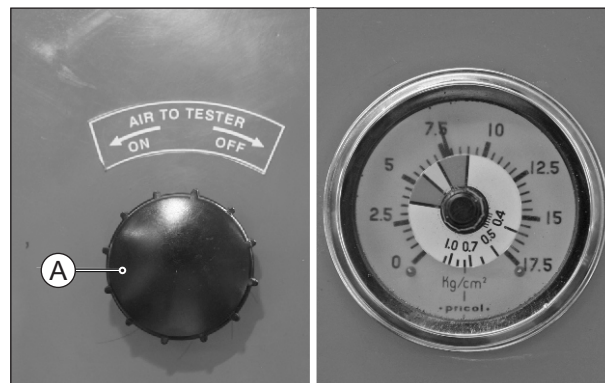

Fig. 2.41
- Open the air control knob (A) and adjust the air pressure of the tester in such way that the pressure gauge needle is lying either in yellow band or in green band. (Fig. 2.41)